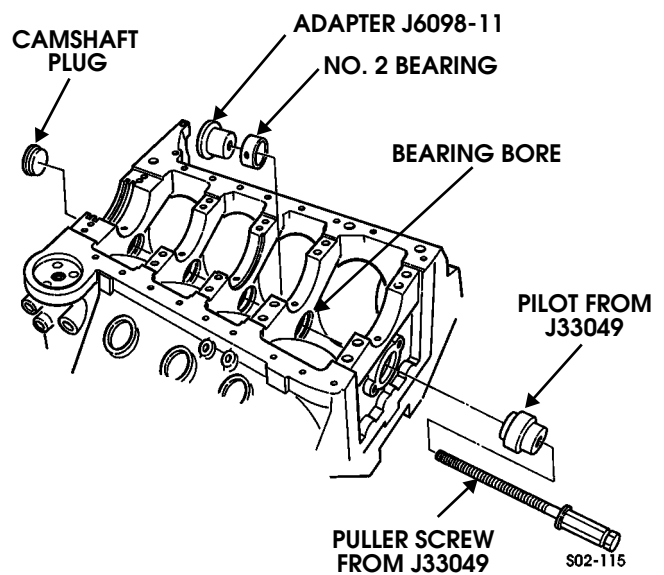

Figure 2-134: Installing Cam Bearings 2, 3, and 4
- b. Slide puller screw through pilot and No. 2 bearing bore (Figure 2-134).
- c. Position new bearing on adapter J33049 (Figure 2-134).